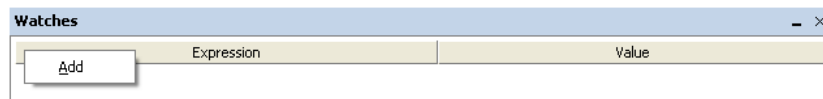

Figure 40. Adding a watch expression via the **Add** menu item.
2. Right-click on the gray bar, like in Figure 40, and click **Add**.